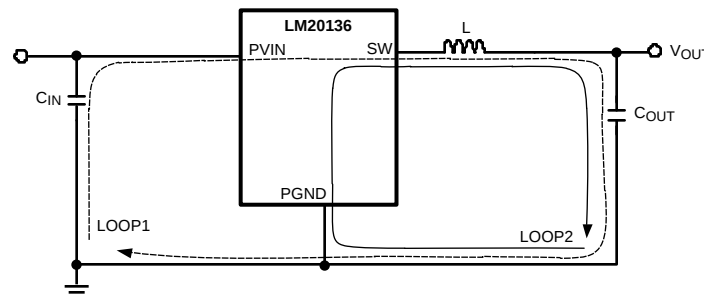

Figure 38. Schematic of LM20136 Highlighting Layout Sensitive Nodes
1. Minimize area of switched current loops. In a buck regulator there are two loops where currents are switched rapidly. The first loop starts from the input capacitor, to the regulator VIN pin, to the regulator SW pin, to the inductor then out to the output capacitor and load. The second loop starts from the output capacitor ground, to the regulator PGND pins, to the inductor and then out to the load (see Figure 38). To minimize both loop areas the input capacitor should be placed as close as possible to the PVIN pin. Grounding for both the input and output capacitor should consist of a small localized top side plane that connects to PGND and the die attach pad (DAP). The inductor should be placed as close as possible to the SW pin and output capacitor.